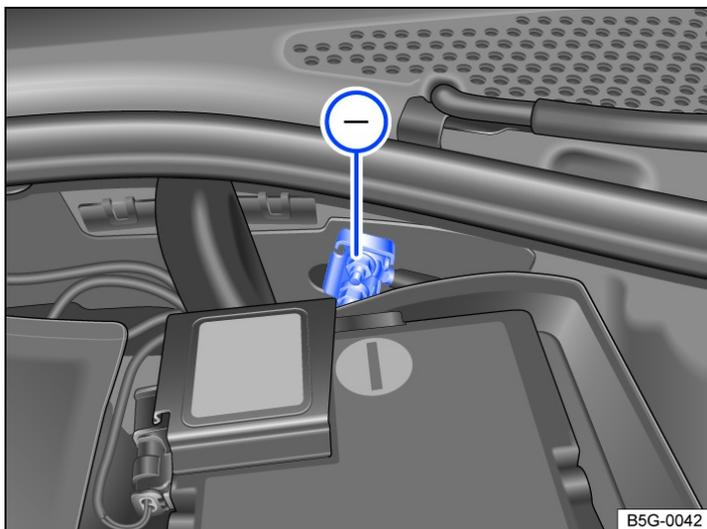

Fig. 1 In the engine compartment: jump-start connection point (earth connection).
- ⊖ The jump-start connection point (earth connection) is used for connecting the *black* jump lead → Fig. 1.